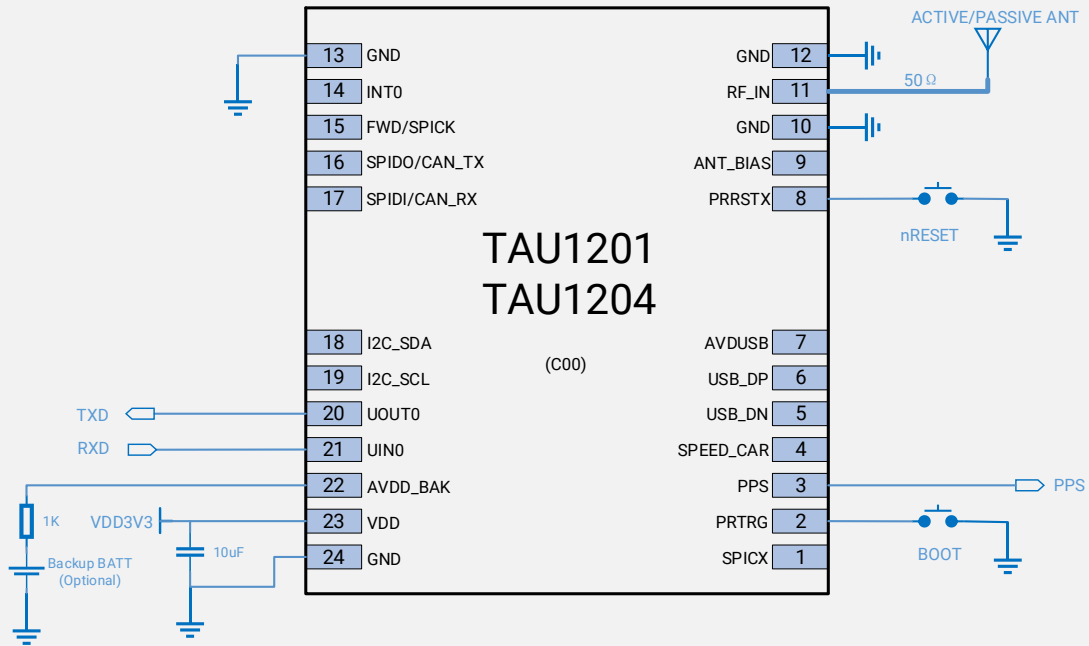

Figure 6 Minimal application diagram of C00 with internal power for ANT
- In C00 design, a bias choke is built-in between ANT_BIAS and RF_IN pin to power the active antenna. (Refer to **Figure 6**)